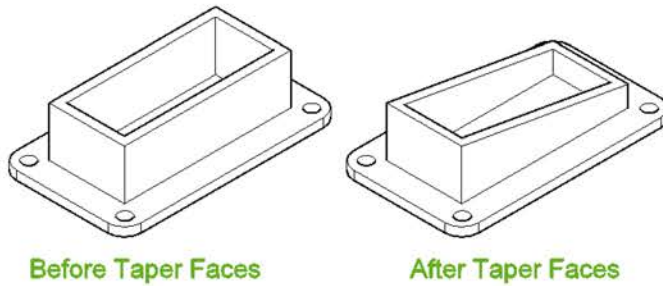

Fig. 19.8 Fifth example – Taper Faces tool
FIFTH EXAMPLE – TAPER FACES TOOL (FIG. 19.8)
1. Construct the 3D model as in the left-hand drawing of Fig. 19.8. Place in the **Isometric** view.
And the selected face tapers as indicated in the right-hand drawing (Fig. 19.8).